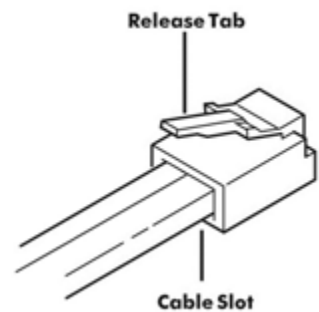

FIGURE 8: RJ-12 Modular Plug
ALWAYS make sure the printed side of the cable is facing away from the release-tab on the RJ-12 Modular Plug (Figure 8). This ensures proper orientation of the plug on each end of the cable.
10. Push down on the release-tab on the RJ-12 Modular Plug (Figure 8) and remove the RJ-12 Modular Plug from the crimping tool.